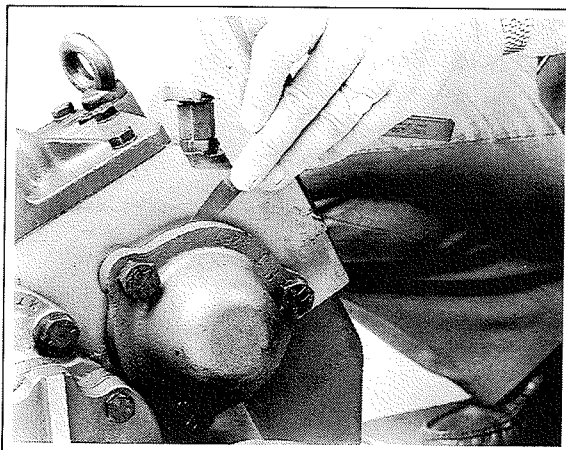

Fig. 18
3. Rotate the shaft, slowly tightening the securing bolts until the shaft starts to bind. Use feeler gauges or shims around the pump or end cover (Fig. 18) to ensure that the gap is uniform and that they are positioned squarely on the rear face of the gearcase.